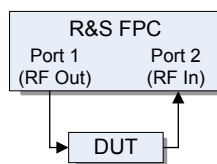

Figure 16-1: Setup of a transmission S21 measurement
1. Connect the DUT to the R&S FPC as shown in Figure 16-1.